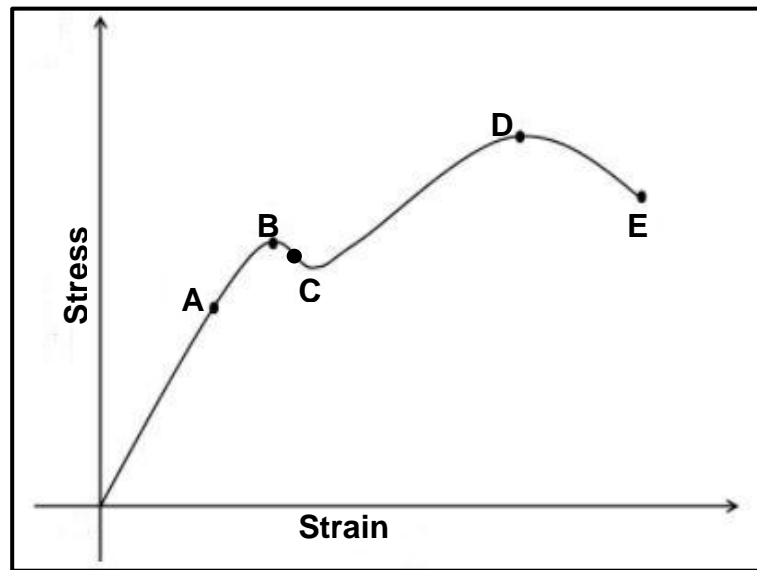

FIGURE 7.3
7.3 FIGURE 7.3 below shows a stress-and-strain diagram. Label parts **A–E**.